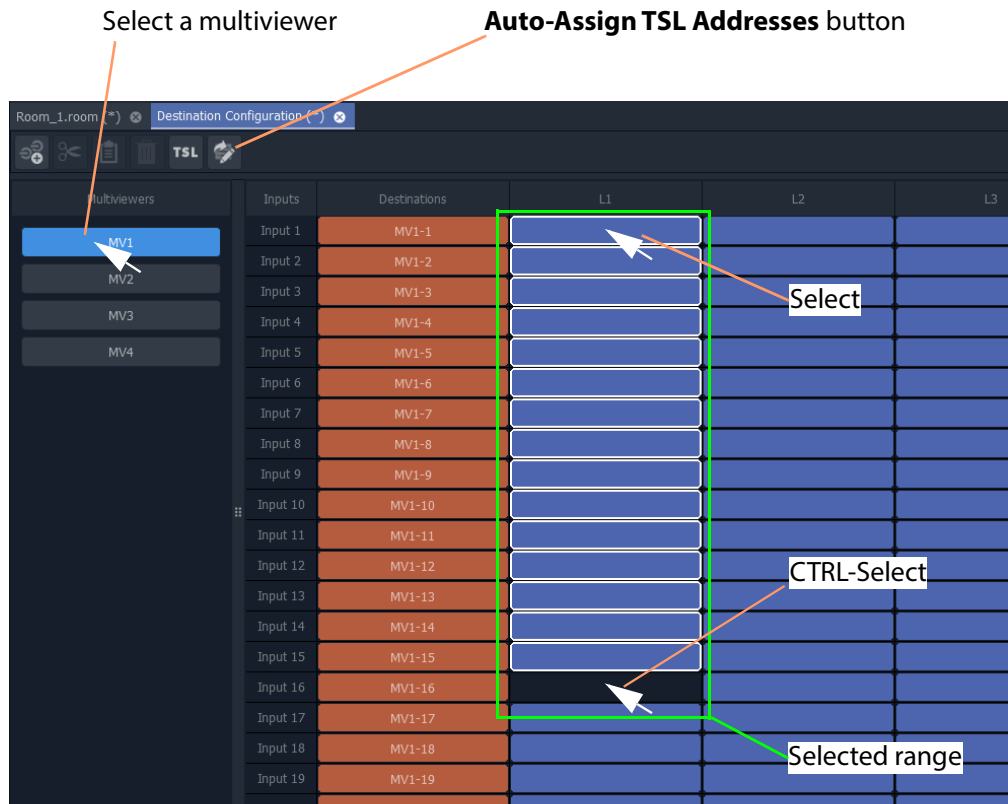

Fig. 16-3: Destination Configuration Tab - TSL Tally Level Config Columns
- 1 Select a multiviewer. (See Figure 16-3.)
This selects the TSL addresses to be filled out. See Figure 16-3.